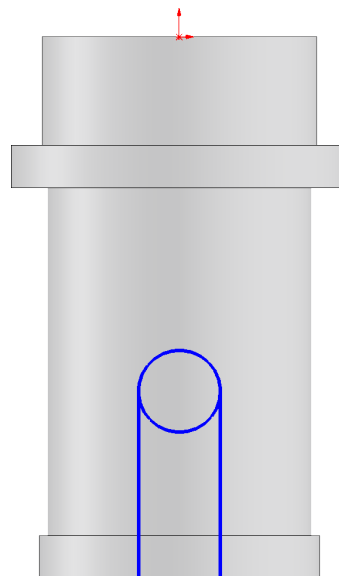

Fig. 14
Step 7. Click **Line**  (L) on the Sketch toolbar.
Step 8. Sketch **lines circle quadrant points down to bottom edge of Revolve across edge and back up to quadrant point**, **Fig. 14**.
Step 9. Click **Smart Dimension**  (S) on the Sketch toolbar.